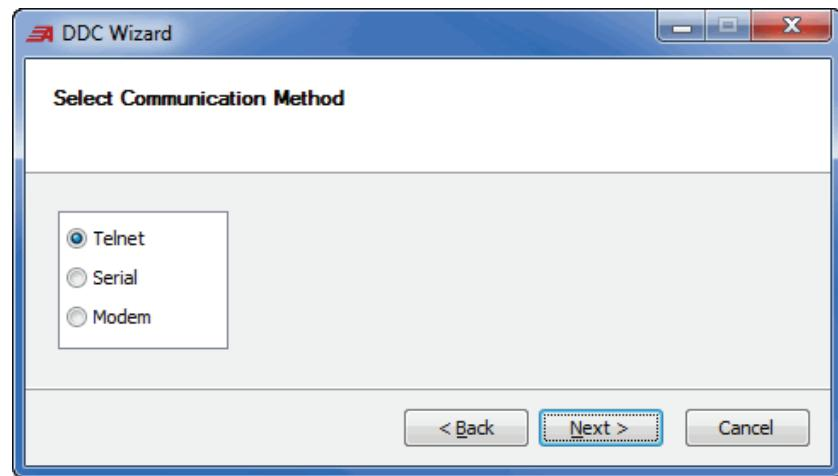

Figure 28 Select Communication Method Window
- Step 2. Once you are operating in the **Device Data Collection Wizard**, select **Next** to open the **Select Communication Method** window and select **Telnet**, as shown in *Figure 28*.